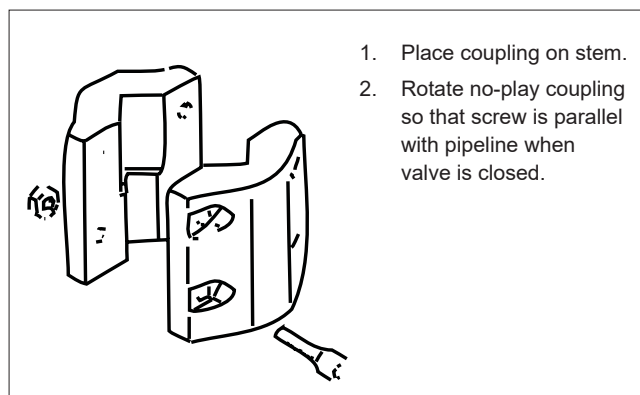

Figure 6.
3. Place the coupling onto the valve shaft. If the linkage contains a split, no-play coupling, assemble the coupling loosely on the valve stem. Use socket head cap screws and lock nuts. See **Figure 6**.